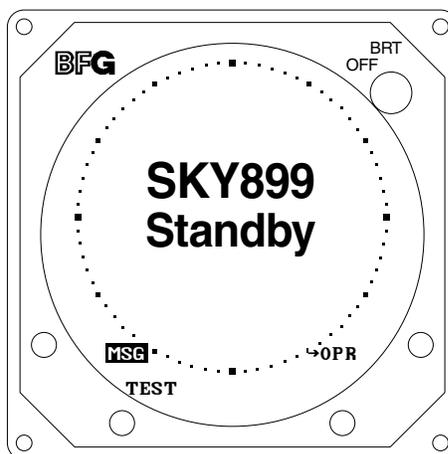

Figure D-3. Standby Screen
After approximately thirty seconds the display will show the STANDBY screen (see figure D-3).
9. Exit the Service Menu. Verify that the display shows the standby screen (figure D-3) and then press Soft-key (4), labeled OPR.
10. Verify operation of range function. Soft-key (3) is labeled to indicate the current range. Press Soft-key (3) to toggle the display range between 2, 6 and 15 nm.
12. Verify that the system toggles through the altitude display modes. Soft-key (2) is labeled to indicate the current mode. Press Soft-key (2) to select normal (NRM), below (BLW), and above (ABV).
- b. Verify that the SKY899 display shows the standby screen (figure D-3) and then press soft-key (4), labeled OPR. Select NRM mode and 6 nm range by pressing appropriate soft-keys.